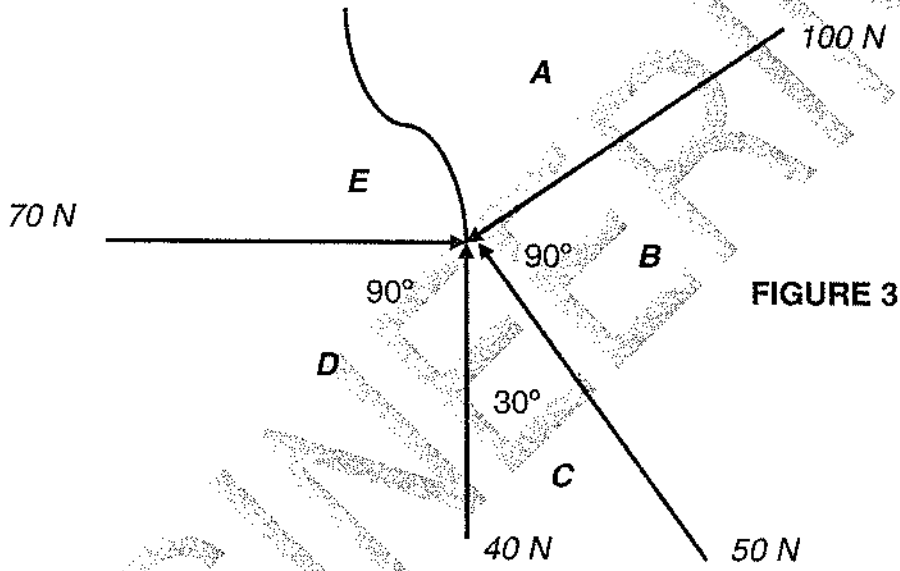

FIGURE 3
- 5.2 FIGURE 3 on the attached ADDENDUM shows four forces acting on a pin.